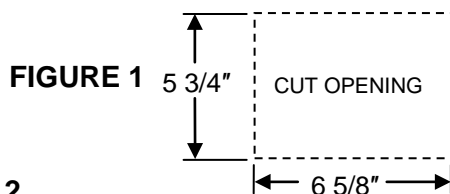

FIGURE 1
2. Cut a 5 3/4" X 6 5/8" opening through the wall in the desired location. FIGURE 1